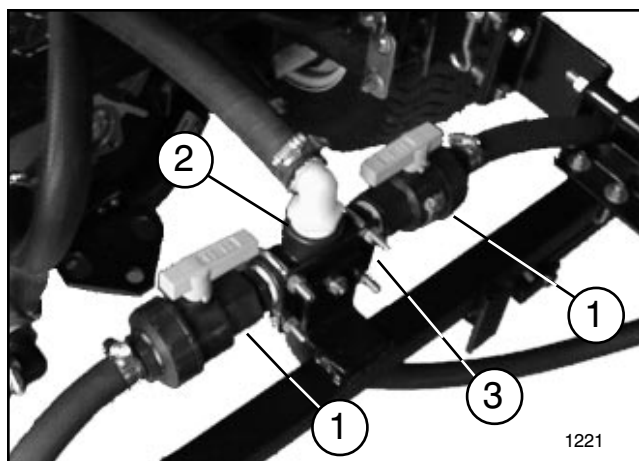

FIG. 16
19. Apply thread sealer and install (2) 1" Ball Valves into opposing ports of 1" Cross using (2) 1" Close Nipples. See FIG 16.
23. Mount Cross Base to Boom Frame using (1) 5/16" x 3/4" carriage bolt and flange nut. See FIG. 16.
24. Mount Cross Assembly to Cross Base, as shown in FIG. 16, using (2) 5/16" U-Bolts and (4) flange nuts.
25. Attach other end of the 1" x 64" Hose attached to Ratchet Valve earlier to the 90° Hose Barb in top of Cross. Secure with (1) 1" hose clamp.